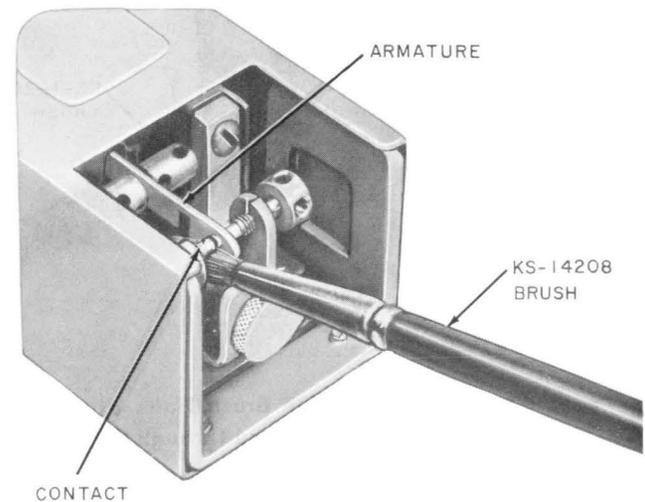

Fig. 2—Position of KS-14208 Brush Hairs When Brush Is Below Contacts on a 239-Type Relay
4.04 *All Relays Except Wire-Spring and UB-Type Relays:* Hold the KS-14208 brush so the hairs are directly under the contacts to be cleaned, (Fig. 2). Brush the contacts by gradually working the brush up between the contacts using a back and forth (sawing) motion, as shown in Fig. 3, 4, and 5. The contacts will be cleaned as the hairs pass between them. Repeat this operation two or three times. When cleaning normally closed contacts, operate the relay manually. To brush contacts on 207-type relays, it will be necessary to use a locally modified brush having the ferrule bent at approximately